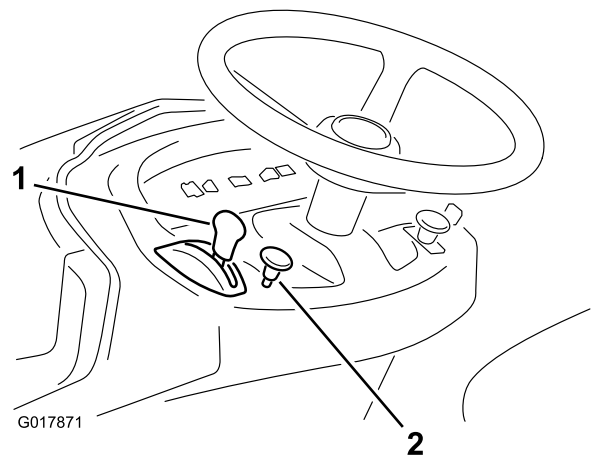

Figure 9
5. When starting a cold engine, pull out the choke knob (Figure 9).
- After the engine starts, slowly shift the throttle control lever to the Fast position (Figure 9).
- Move the throttle control lever to the Slow position (Figure 9).